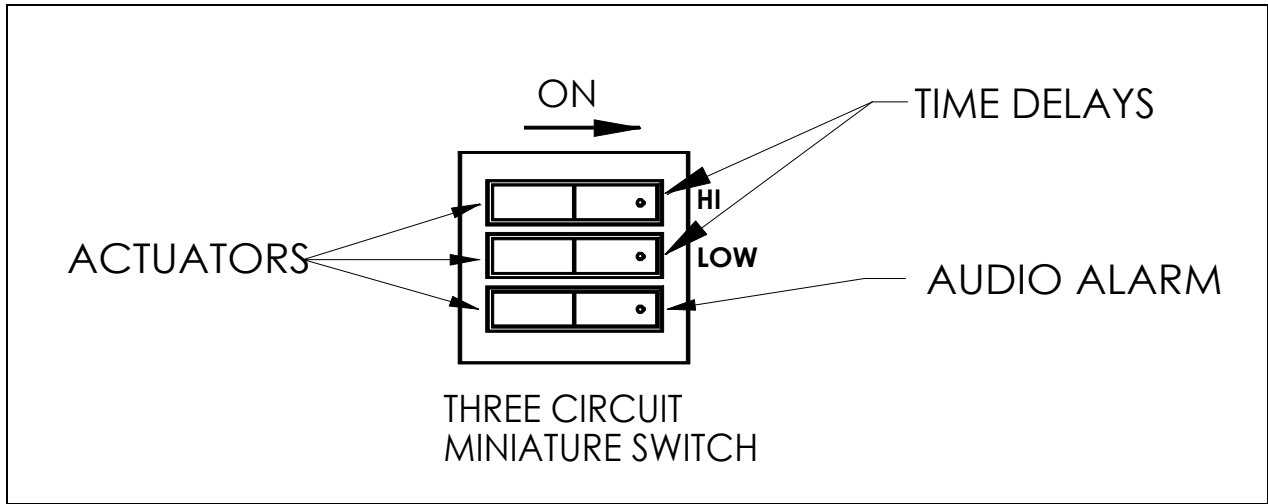

Figure 1: Three-circuit miniature switch.
The AMC-1040 is an all in one gas monitoring system incorporating a highly specific electrochemical sensor from AMC's broad selection of available types. It serves to continuously monitor the target gas (listed in Product Information Section). The monitor comes with the following features (see Figures 1, 2 and 3).
9. THREE CIRCUIT MINIATURE SWITCH: Each actuator on the miniature switch controls a different circuit as shown in Figure 1. If the actuator is set in the UP position, its corresponding circuit is ON. If the actuator is set in the DOWN position, the circuit is OFF.
When power is applied, the GREEN power LED will light. A one-minute time delay eliminates false alarms from occurring during the sensor's warm up period. After this time delay, the unit becomes fully operational. If time delays are required or the audio alarm indicator is not needed, the three circuit miniature switch can be set accordingly. Refer to Section 3, Item 9 and Figure 1.